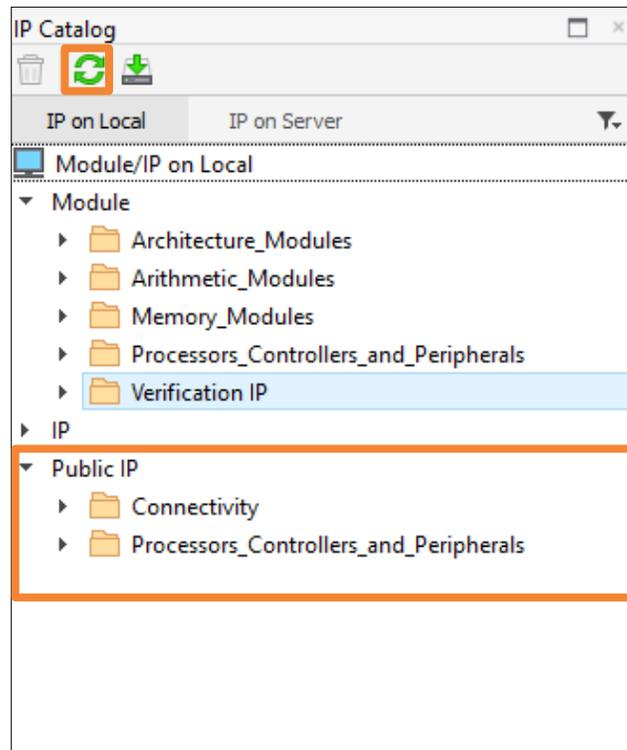

Figure 2.98. IP Catalog
- Set the IP Public Path, and then refresh **IP catalog** to get IP from this path (Figure 2.98).